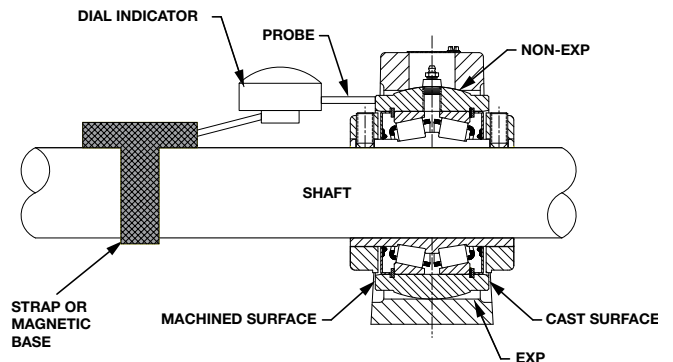

Figure 1 - S-1 Unit
- Mount a dial indicator on the shaft near the nonexpansion (fixed) bearing. Place the indicator probe so that it contacts the machined surface of the S-1 Unit Housing perpendicular to that surface. See Figure 1. Note that only one face of the S-1 Unit is a machined face.